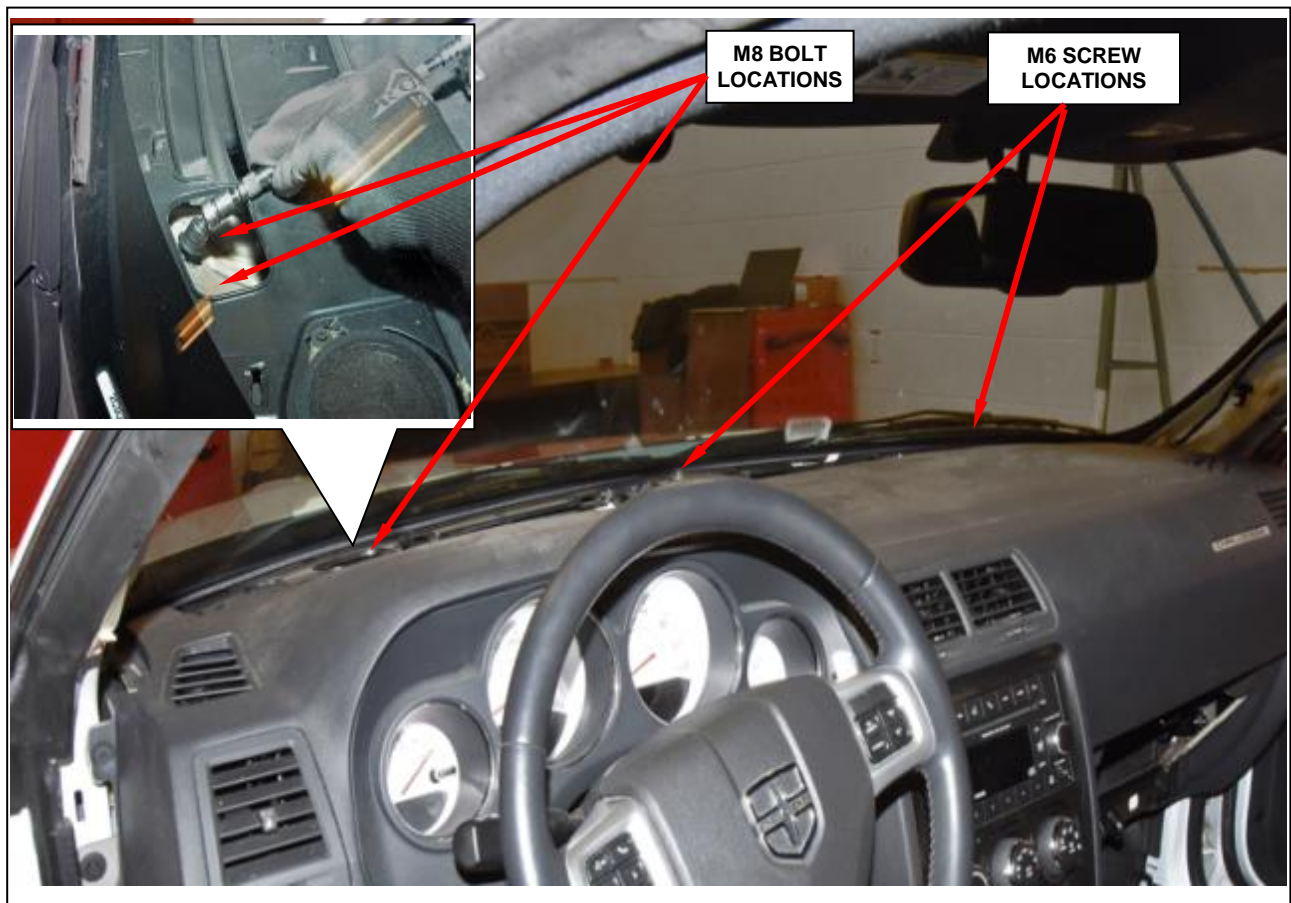

Figure 96 – Top Instrument Panel Fasteners
33. Remove the defroster grille to access the instrument panel top retaining bolts then remove and save the two M8 bolts and two M6 screws (Figure 96).